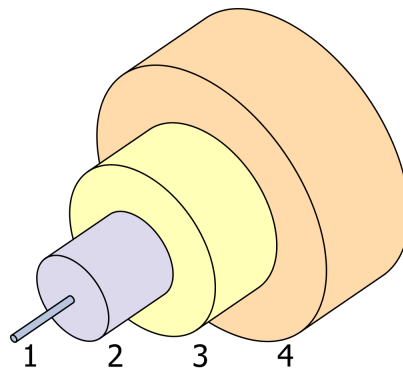

Figure 1: Fiber layout
- ☐ Remove the jacket (4 on figure 1), the buffer (3 on figure 1) to reveal the cladding (2 on figure 1)